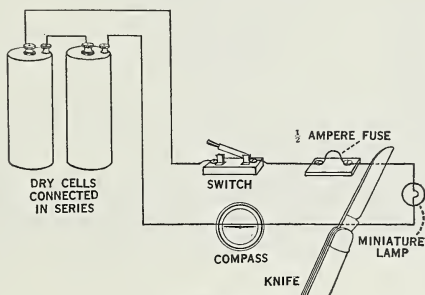

Fig. 294.
*Directions:* Connect the circuit as shown in Figure 294. The copper wire is the circuit through the house. Lay it across the compass. Close the switch. Does the compass needle move? What does that show? Now with your knife or a small piece of copper wire short-circuit the long copper wire as shown in the diagram. What happens?